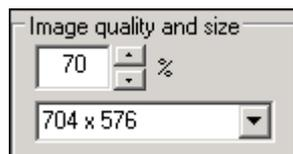

Fig. 25 *Image quality and size* group field on the *LAN cameras* tab
To keep the processor load below 90%, we recommend setting the resolution of network cameras low (CIF format). The image quality should be set to approximately 70%. See *Fig. 25*, page 39 for further information.
3. Enter the image quality in the % text field (see "Fig. 25 ", page 39).